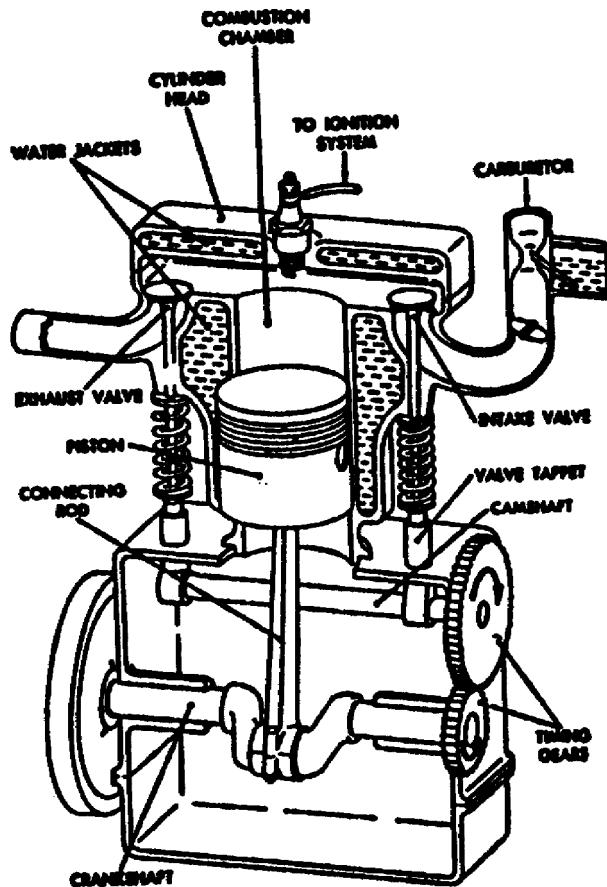

Figure 1-2. Single-Cylinder, Four-Stroke, Internal Combustion Gasoline Engine (Cut-Away View).
b. No matter how many cylinders an engine has, whether 1, 2, 4, 6, or 12, the same actions take place in each cylinder. Much can be learned about construction and operation by studying a single cylinder engine (Figure 1-2). This engine is a four-stroke cycle, internal combustion, gasoline engine; these terms are explained in subsequent paragraphs.